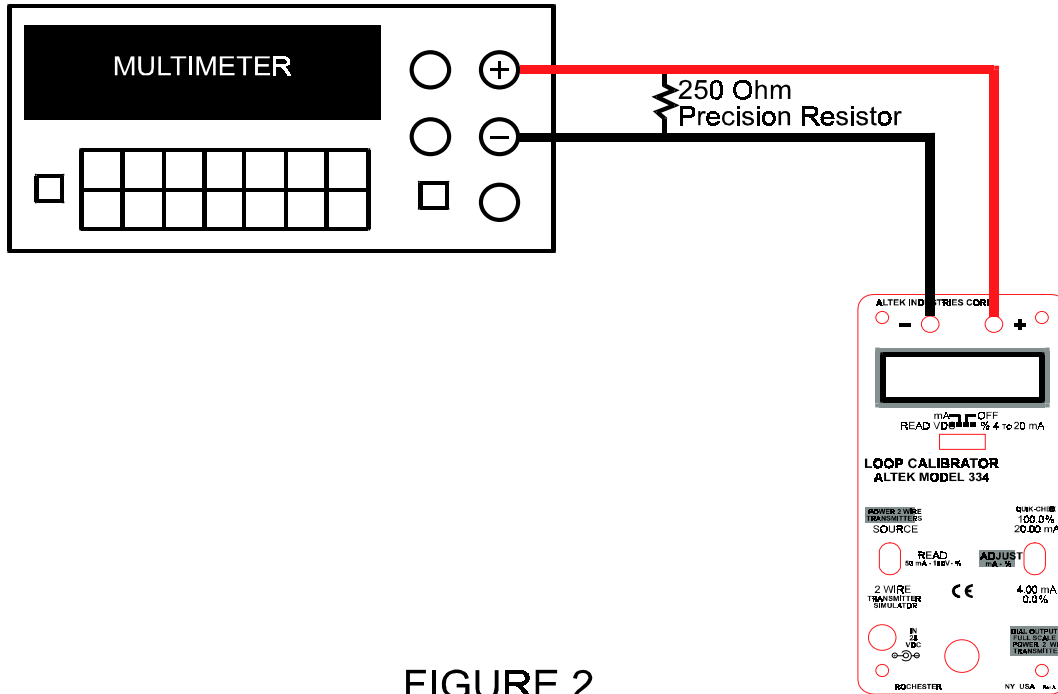

FIGURE 2
1. Connect the UUT to the DMM and 250Ω standard as shown in Figure 2.